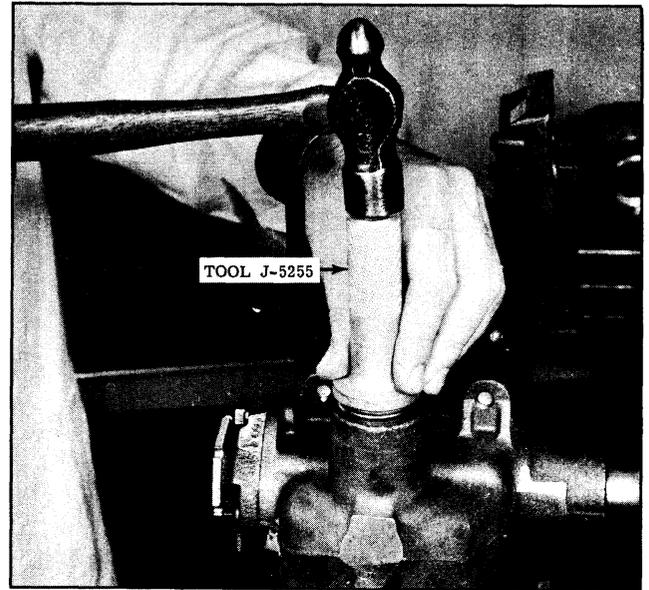

Fig. 5-13 Installing Pitman Shaft Seal
4. Install a new seal into housing with lip of seal facing inward. Drive seal flush with casting, using Tool J-5255. (See Fig. 5-13)